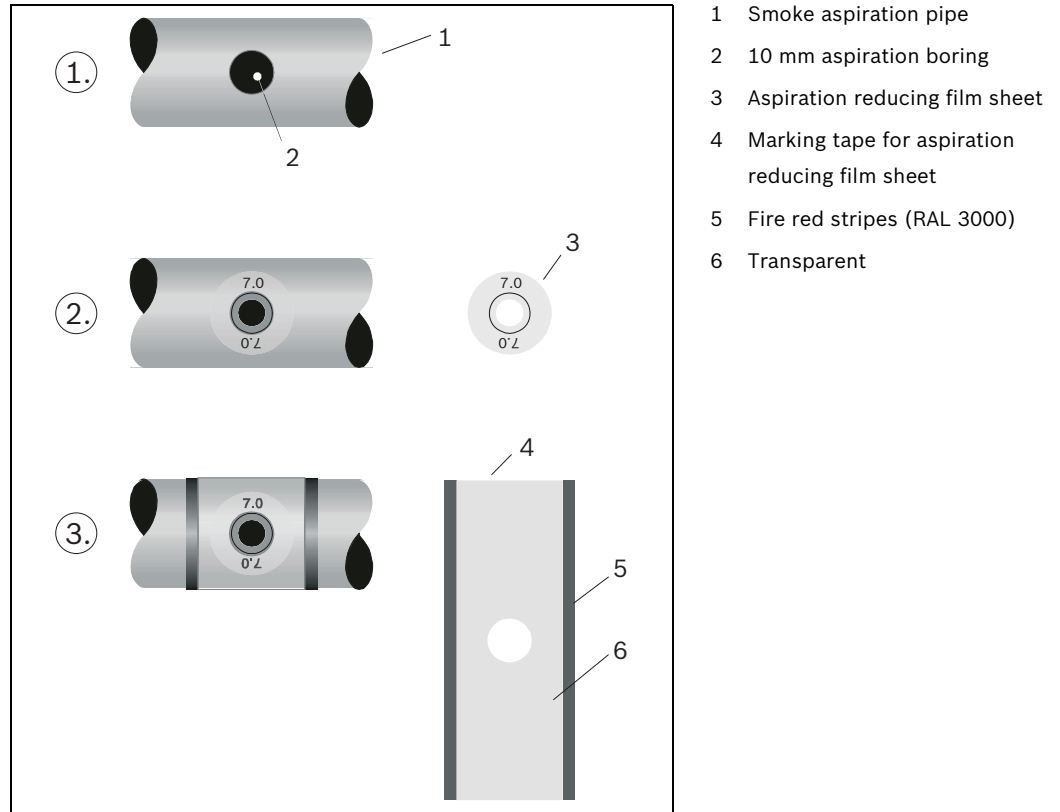

Figure 5.3 Applying the aspiration reducing film sheet
2. Select the size of the aspiration reducing film sheet according to the specifications. Glue the aspiration reducing film sheet to the opening (see *Figure 5.3*).